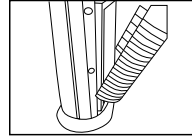

Fig. 6
2. Open the plate outward until the tabs at the bottom of the grill plate easily slide away from the unit. Fig. 6